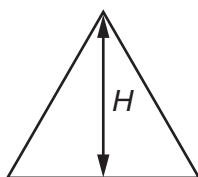

Fig. 3.2
- (a) Measure and record in millimetres to the nearest millimetre, the height H of **your** triangular illuminated object. Fig. 3.2 shows where you should measure H .